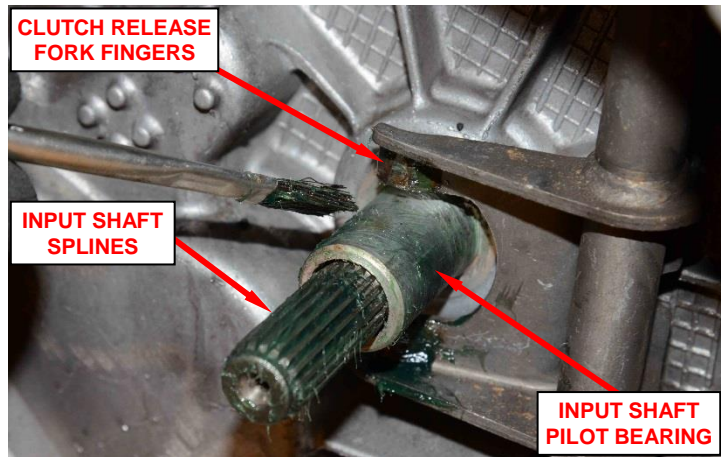

Figure 66 – Lubricate Clutch Release
79. Clean the surface of the clutch release fork fingers, input shaft pilot bearing and the input shaft splines to make certain that all oil, grease, and rust has been removed (Figure 66).
80. Lubricate the surface of the clutch release fork fingers, input shaft pilot bearing and the input shaft splines with Mopar® high temperature bearing grease or equivalent (Figure 66).